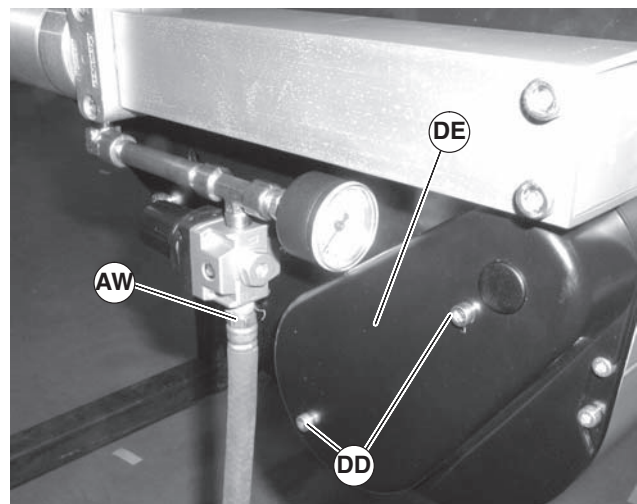

Figure 95
1. Remove air supply and remove hose (Figure 95, item AW) from center drive.
2. Remove screws (Figure 95, item DD) and guard (DE).